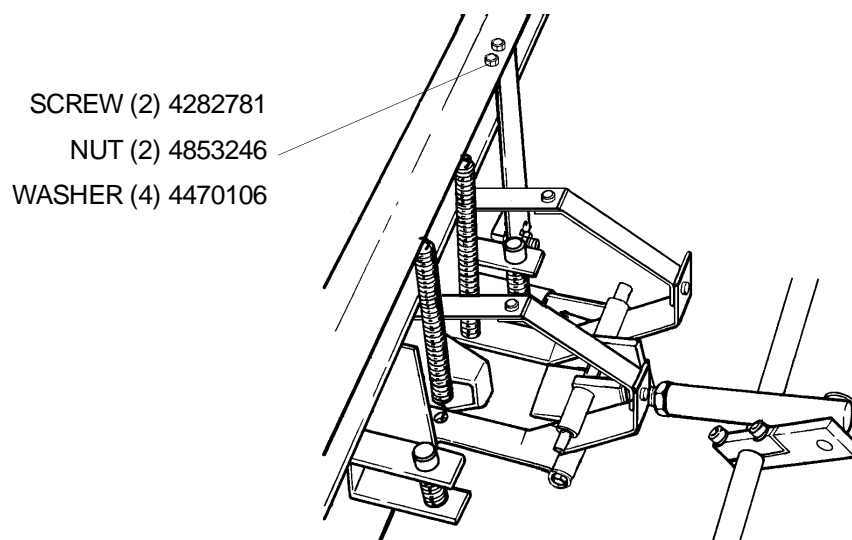

figure 7
- 16.** Remove indicated parts on figure 7. Install new parts. See Note on page 10!